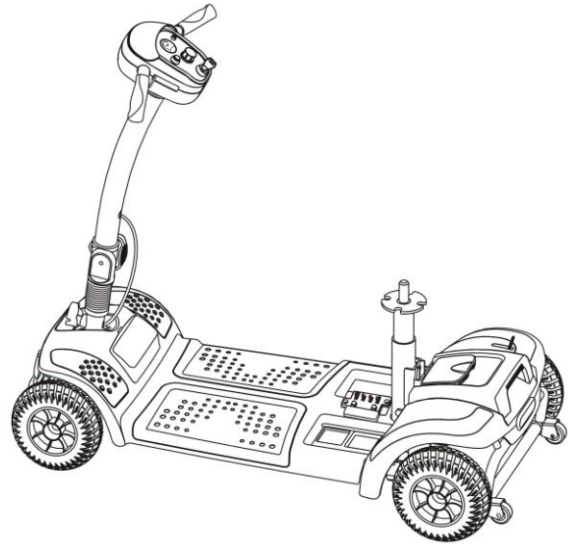

Fig 4.1.7
3. Put down the front and rear sections until the scooter is level. (See Fig 4.1.7)